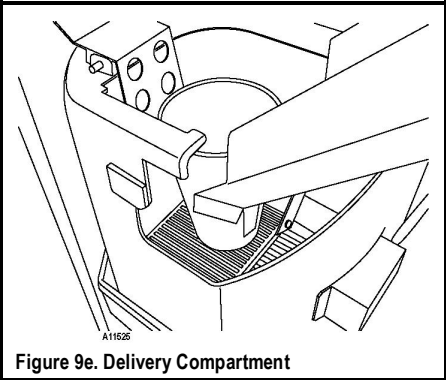

Figure 9e. Delivery Compartment
- 4a. The cup should be dispensed via the stainless steel cup chute and land squarely on the platform of the delivery compartment. See **Figure 9e**.